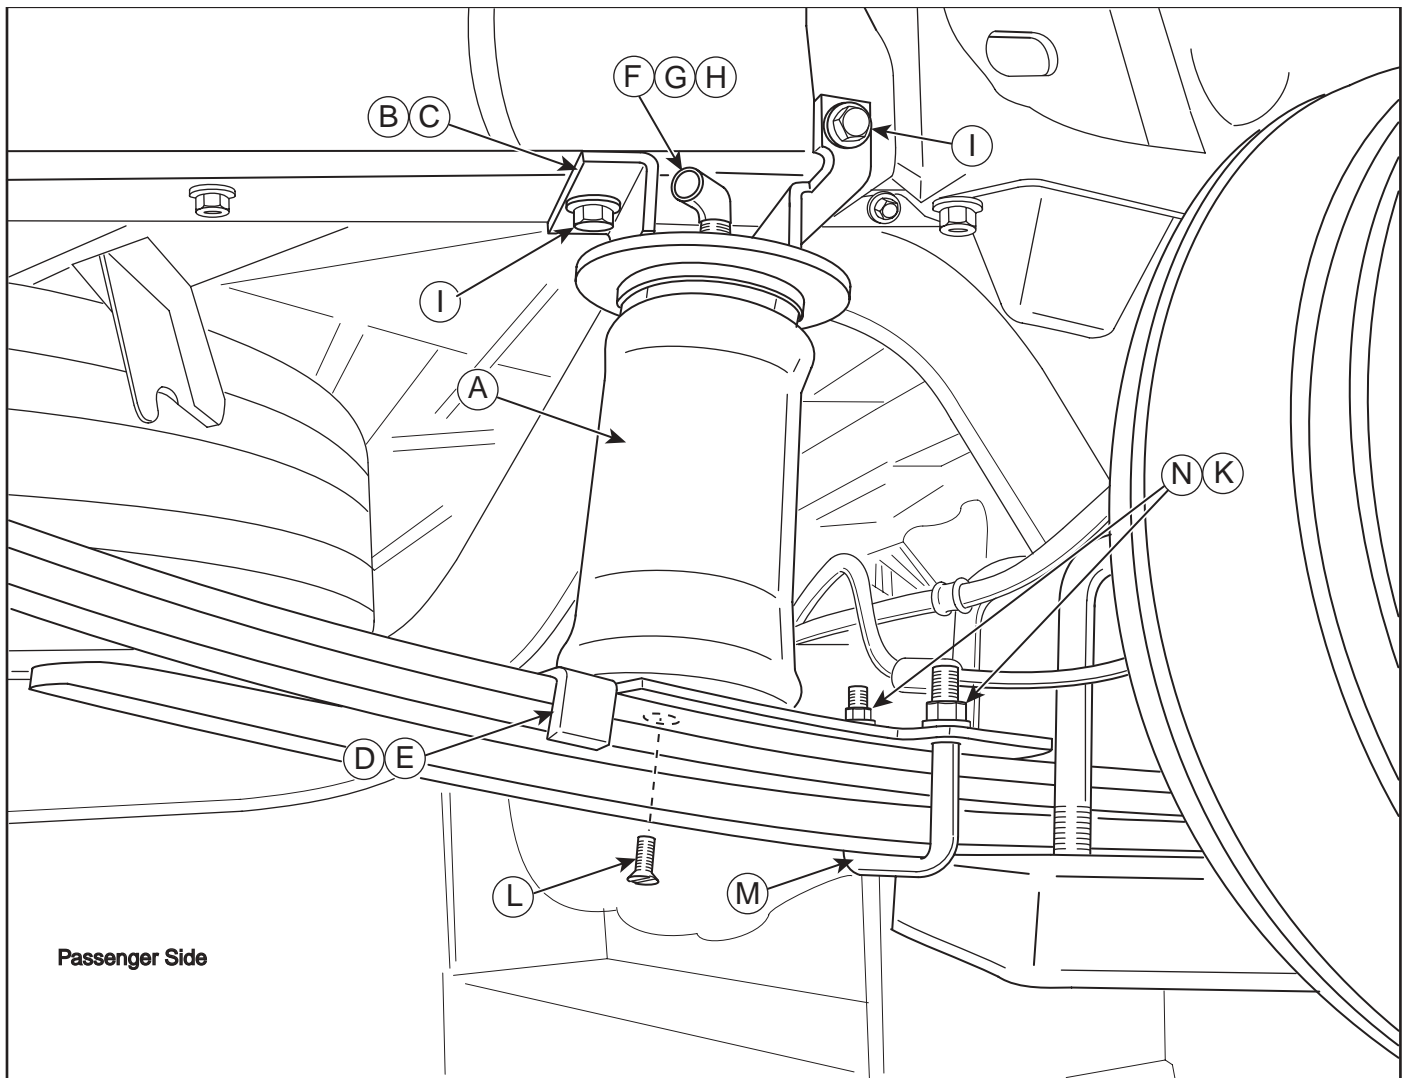

Figure 1
3. Set the brackets on the frame behind the axle as shown (Figure 1 & 2). Clamp the brackets to the frame with vise grips or welding clamps.
5. Attach both brackets to the frame with the supplied (4) four  $\frac{3}{8}$ "-16 x 1-1/2" bolts (I), large flat washers (J) and nyloc nuts (K) (Figure 1).
3. Attach the lower brackets to the leaf spring with supplied U-bolts (M), flat washers (N) and nyloc nuts (K) (Figure 1).
4. Feed the top fitting (F) and thread post of the top air spring through the slot on the upper bracket. Attach the large serrated washer (G), then the large nyloc nut (H) over the fitting and thread post. Tighten the nut finger tight only at this time (Figure1).